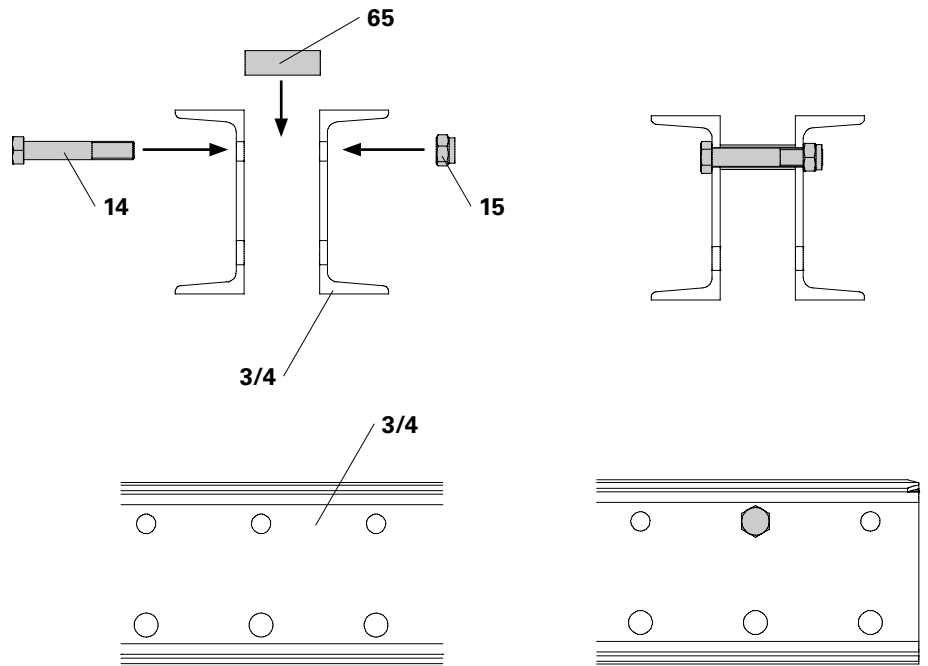

Fig. B2.09
1. Position the tube sleeve of the Spacer M20-82 (65) in the Climbing Rail RCS 748 (3/4) with the help of a hammer.
2. Insert Bolt ISO 4014 M20 x 120-8.8 (14) through the Climbing Rail RCS 748 (3/4) and tube sleeve of the Spacer M20-82 (65).
3. Turn Nut ISO 7042 M20-8 (15) on the Bolt ISO 4014 M20 x 120-8.8 (14) and tighten. (Fig. B2.09)